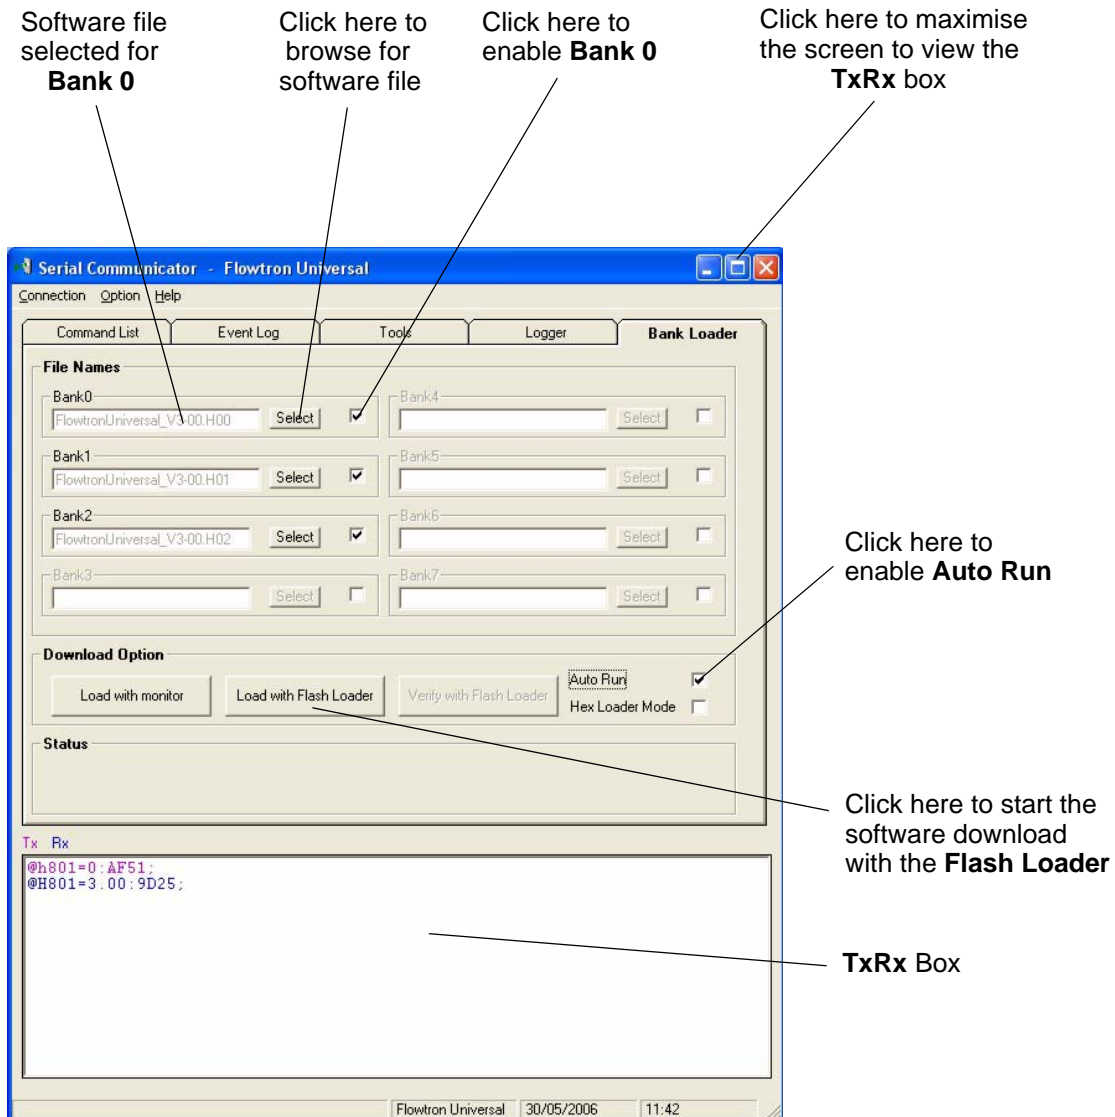

Figure 84 - Communicator Software - Initialising the Bank Loader
- 9.2 On the Communicator software, click on the **Command List** tab (refer to Figure 84).
- 10.4 On the Communicator software, click on the **Bank Loader** tab (refer to Figure 84).
- 10.6 On the left side of the dialog box, under **File Names**, select the three pump software files, as follows (refer to Figure 84):